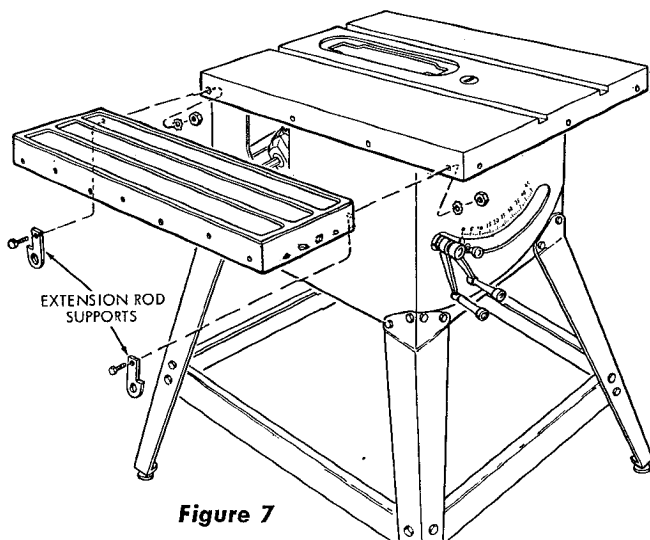
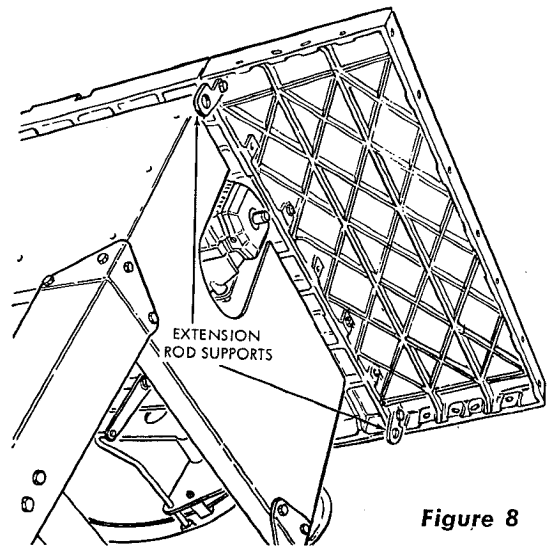

Figure 7
Figure 8
- (1) Install table extensions on each side of the table with four 5/16-18 x 1-1/4 inch screws, 5/16-18 inch nuts and 5/16 inch lockwashers in each extension (See figure 7.) These extensions are provided with multiple holes on both sides (front and back) to make them adaptable to various
table mountings. Position the extensions to the sides of the table so the four holes in the table and the extensions are aligned when the table and extensions are correctly mated. An extension rod support should be located under each end screw at left-hand side of the saw. (See figures 7 and 8.) Leave screws snug (not tight). Be sure to position the extension rod supports as shown in figure 8.